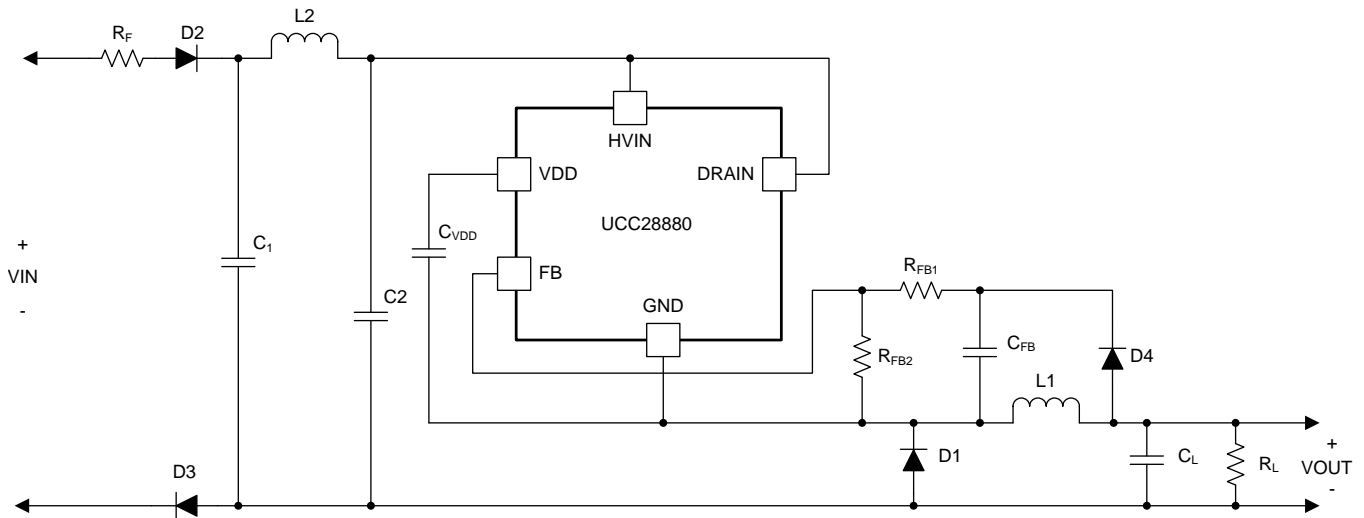

Figure 19. High-Side Buck Converter Schematic
Figure 19 shows a typical application example of a non-isolated power supply, where the UCC28880 is connected in a high-side buck configuration having an output voltage that is positive with respect to the negative high-voltage input (VIN-).
In low-side buck converter the output voltage is always sensed by the FB pin and UCC28880 internal controller can turn on the MOSFET on VOUT. In high-side buck converter applications the information on the output voltage value is stored on  $C_{FB}$  capacitor. This information is not updated in real time. The information on  $C_{FB}$  capacitor is updated just after MOSFET turn-off event. When the MOSFET is turned off, the inductor current forces the freewheeling diode (D1 in Figure 19) to turn on and the GND pin of UCC28880 goes negative at  $-V_{d1}$  (where  $V_{d1}$  is the forward drop voltage of diode D1) with respect to the negative terminal of bulk capacitor (C1 in Figure 19). When D1 is on, through diode D4, the  $C_{FB}$  capacitor is charged at  $V_{OUT} - V_{d4} + V_{d1}$ . Set the output voltage regulation level using Equation 18.
- $R_{FB1}$ ,  $R_{FB2}$  is the resistance of the resistor divider connected with FB pin (see Figure 19)